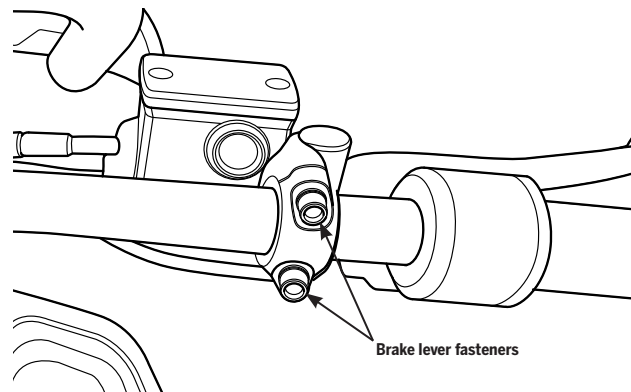

Figure 52: Brake Lever Fasteners
3. Using a 5 mm hex wrench, loosen the two fasteners on the brake lever clamp (**Figure 52**).